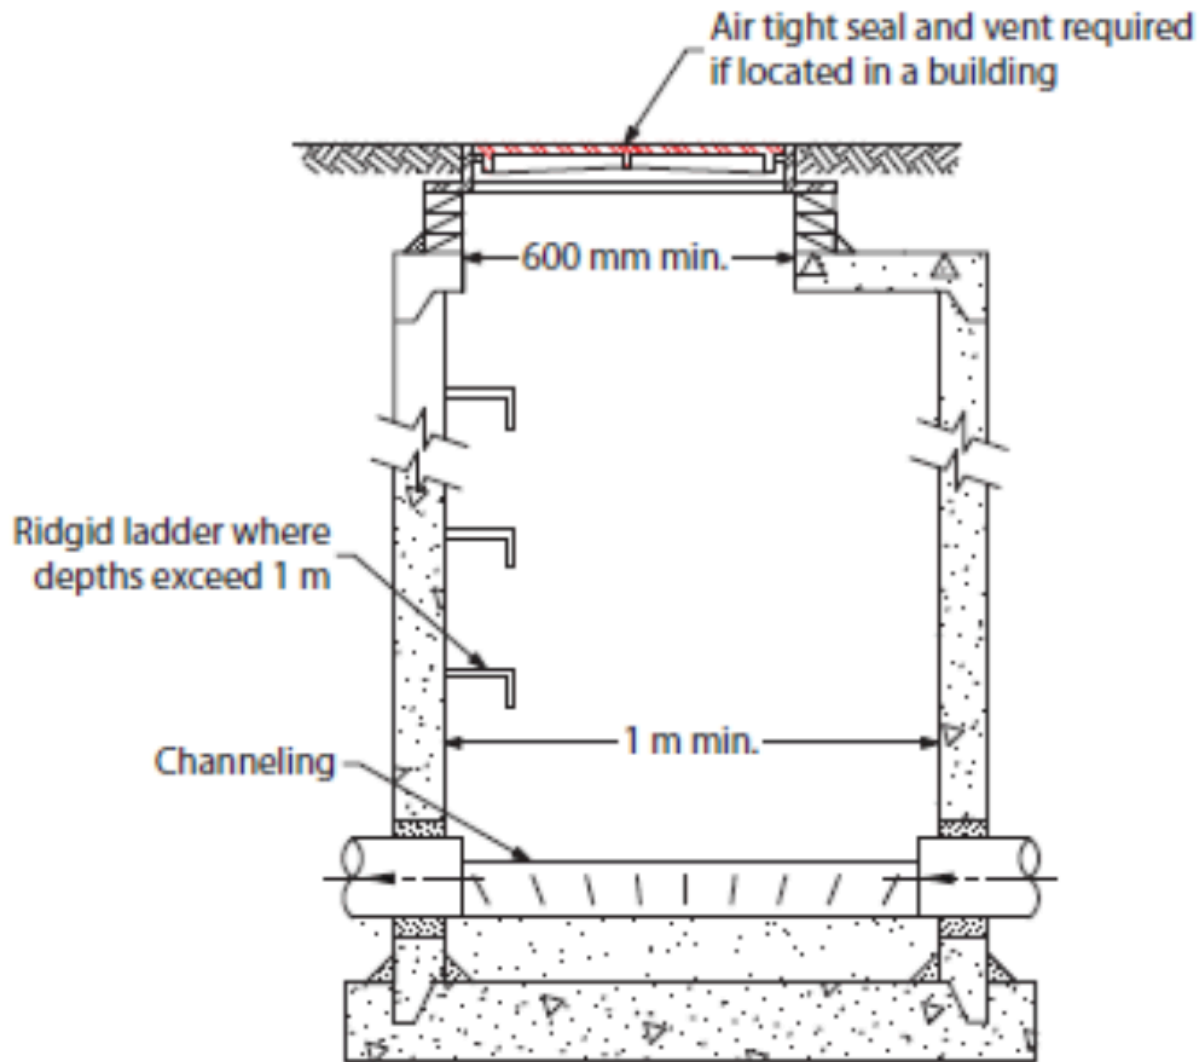

Figure 1 Concrete sanitary manhole
- Figure 1 Curb inlet catch basin by ITA is licensed under a CC BY-NC-SA licence.